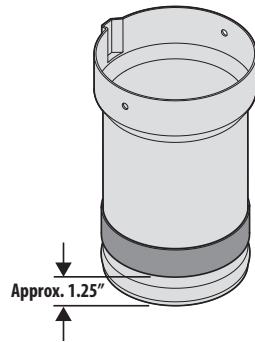

Figure 22
3. Apply a wide adhesive rubber strip (735-05020), onto the chute extension tube, approximately 1.25" from the narrow end of the extension tube, which should be approximately a quarter inch above the bead on the narrow end of the extension tube, as shown in Figure 22.